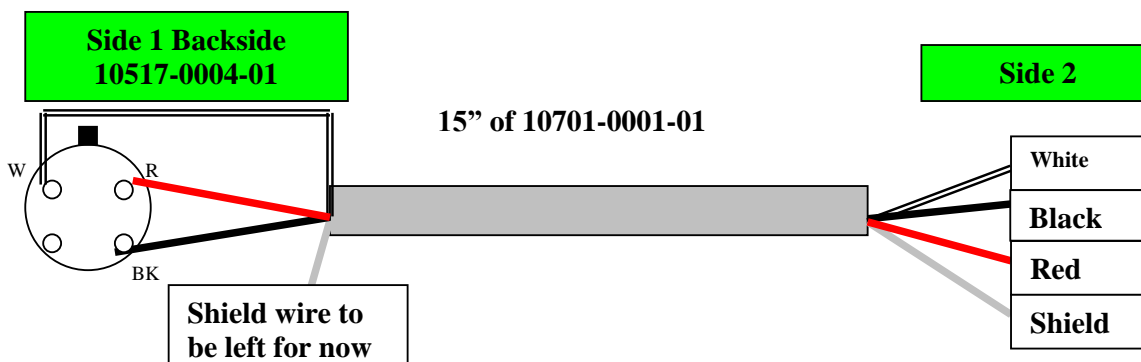

Figure 2
- 2.2. Strip outer insulation on **Side 1** to 1 ¼" (see Figure 2).
- 2.7. Strip the outer insulation on **Side 2** to ¾" (see Figure 2).